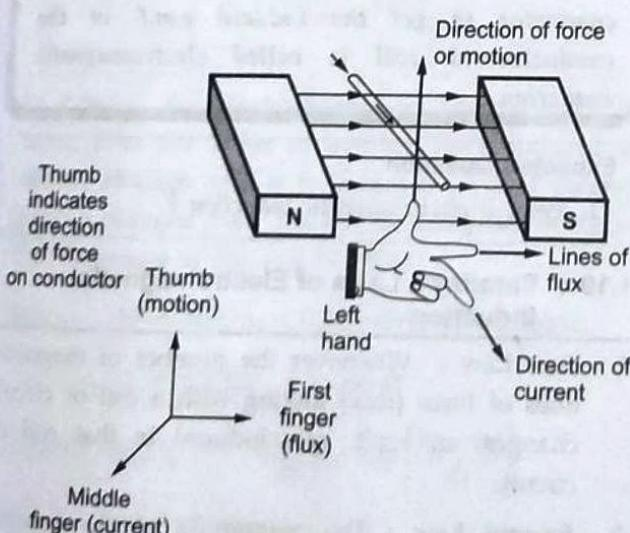

Fig. 1.17.2 Fleming's left hand rule
- The rule is explained in the diagrammatic form in the Fig. 1.17.2.